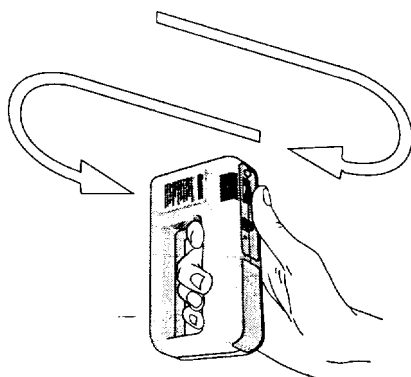

Fig. 2
5. Slide the detector slowly and uniformly in a horizontal motion over the wall surface (Fig. 2).